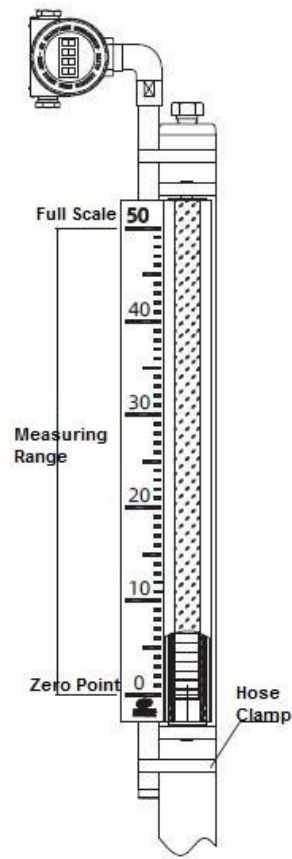

Figure 5 Installation
## 6.2 Installation and operation process - Figure 5
6.2.1 When installing the remote transmission device, as shown in Figure 5, the zero point full scale of the remote transmission device (marked at the factory) and the 0 scale full scale of the on-site indicator on the measuring tube are one-to-one correspondence, and then fixed with a hose clamp.